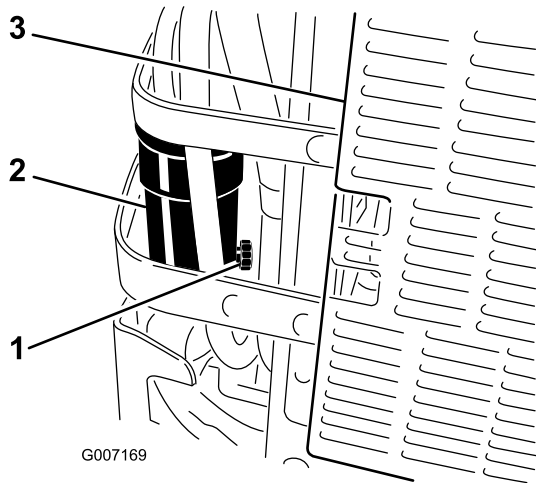

Figure 43
6. Open the drain valve on the water separator approximately 1 turn to allow water and other contaminants to drain (Figure 43).
7. Close the drain valve when only diesel fuel comes out (Figure 43).